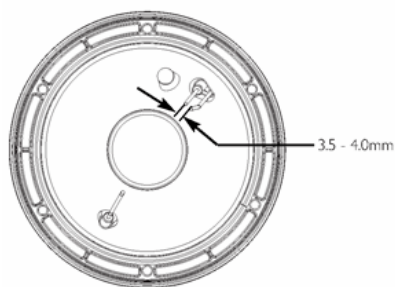

Fig. 54
4. Examine and clean or replace the electrodes as necessary. The spark gap should be 3.5 - 4.0 mm, adjust the earth pin if required (Fig. 54).
7. Inspect the burner, insulation and the electrodes, clean or replace if necessary. Reset the electrode spark gap to between 3.5 - 4.0 mm by adjusting the earth pin if required (Fig. 54).